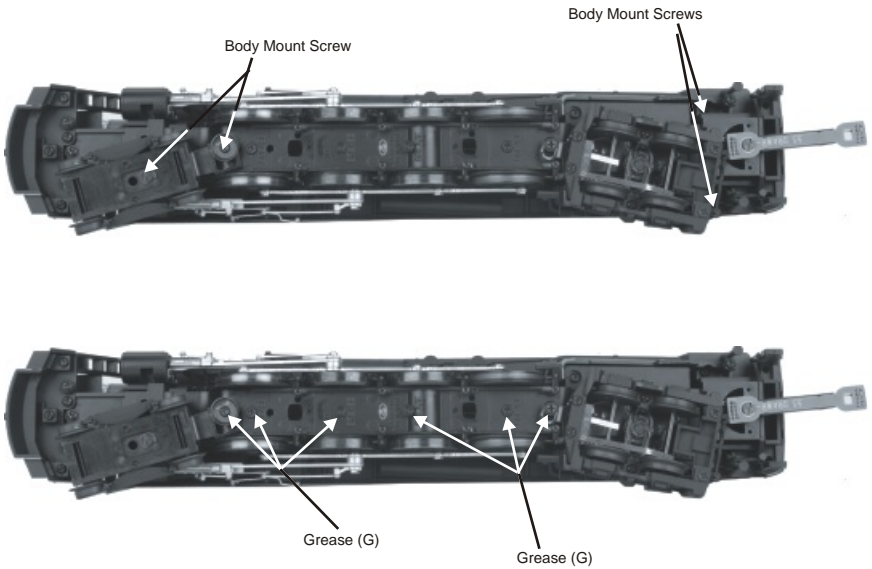

Figure 10. Removing the Body and Lubricating the Grease Points
2. Remove the Phillips screws (marked “GREASE”) located at each set of wheels and under pickup rollers (Fig. 10).
1. Remove the body mount screws as shown in Fig 10 and separate the boiler from the chassis.
If you experience poor or no smoke output when the smoke unit is on and has fluid, check the wick to see if it has become hard, blackened, and unabsorbent around the heating element. To remove the smoke unit you will first have to remove the boiler shell (by removing the body mounting screws shown in Fig 10 on pg. 16), board and bracket that block the smoke unit assembly from being accessed. To do this, follow these instructions: